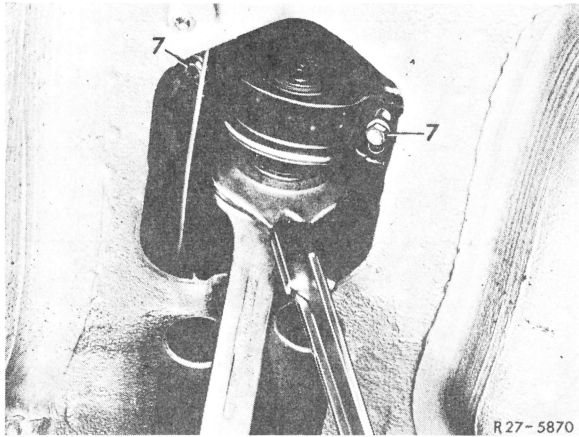

Fig. 3
6 Loosen both fastening bolts (7) of universal shaft intermediate bearing, but do not unscrew (Fig. 3).
7 Loosen propeller shaft clamping nut with torque wrench 001 589 44 21 00 and open end wrench 000 589 13 01 00 (Fig. 3).